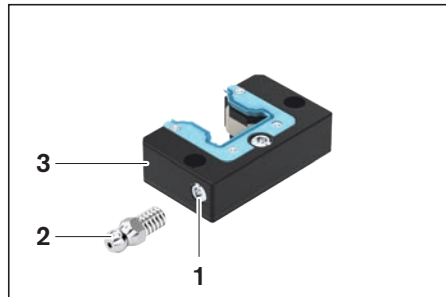
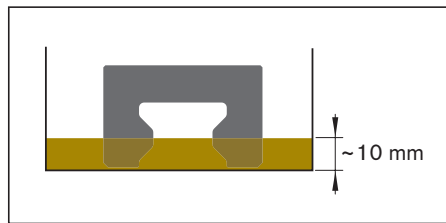

Figure 1
Figure 2
- ▶ Remove the set screw from the lubrication hole (Fig. 1, item 1) and keep for later use.
- ▶ Screw in lube nipple (2).
- ▶ Lie the front lube unit (3) down flat, fill with quantity of oil as per table 1, and leave it to lie for around 36 hours.
- ▶ For size 20 low profile: Stand the front lube units in 10 mm of oil for approx. 36 hours (see fig. 2).
- ▶ The front lube unit size 20 low is **not** refillable via the lube connection (see figure 2).